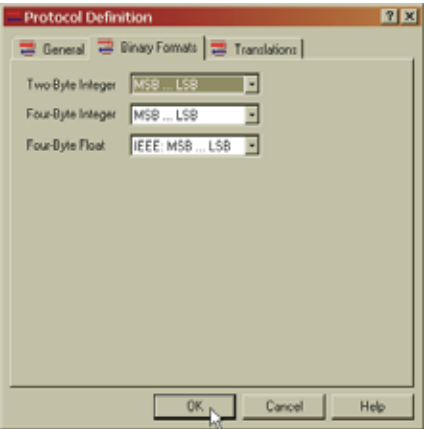

FIG. 194: PROTOCOL DEFINITION/BINARY FORMATS PAGE
Step 12. Click on the Binary Formats tab. The Binary Format page appears. (See Fig. 194)